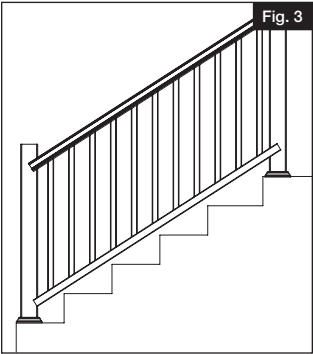
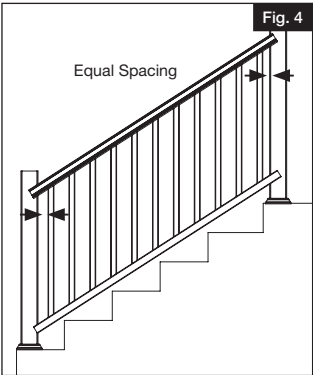

Fig. 3
Fig. 4
- Mark  $\frac{1}{8}$ " from end of post to allow room for brackets (Fig 3).
- Align top rail with bottom rail and cut both rails with miter box, hacksaw or chop saw (a carbide tip blade with 60 teeth or more is recommended) (Fig 4).
- c. Place assembled stair rail section adjacent to the mounted stair posts (Fig 3). Measure the distance from the first and last baluster to the top and bottom posts making sure distance is equal on both sides of stair rail section (Fig 4). Clamp into place (Fig 5).
Cut railing to desired length. Place bracket on each end of top and bottom rails (Fig 3).
Mark four screw hole locations on each bracket. Set rail section aside, then pre-drill  $\frac{1}{8}$ " diameter holes in posts at each mark (Fig 4).